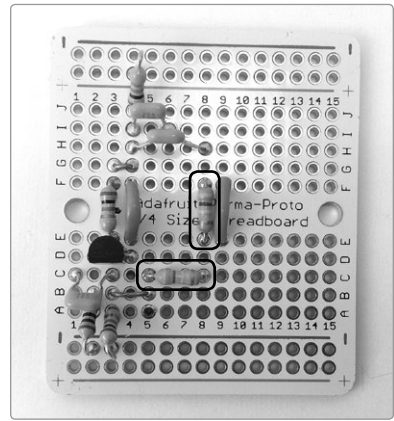

FIGURE 14-15: *The two 470k ohm resistors in place*
Step 13 Run one 470k ohm resistor (yellow-violet-yellow stripes) horizontally from 5C to 8C and the other vertically from 8E to 8F, bridging the divide, as shown in Figure 14-15.